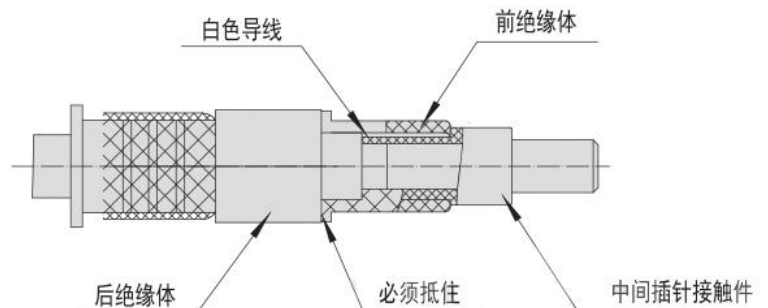

Figure 3.11
⑥ As shown in Figure 3.11. Cover the middle pin contacts and the insulator component on the inner hole contacts. The conductor shall be visible through the wire observation hole. The middle contacts must cover the insulator